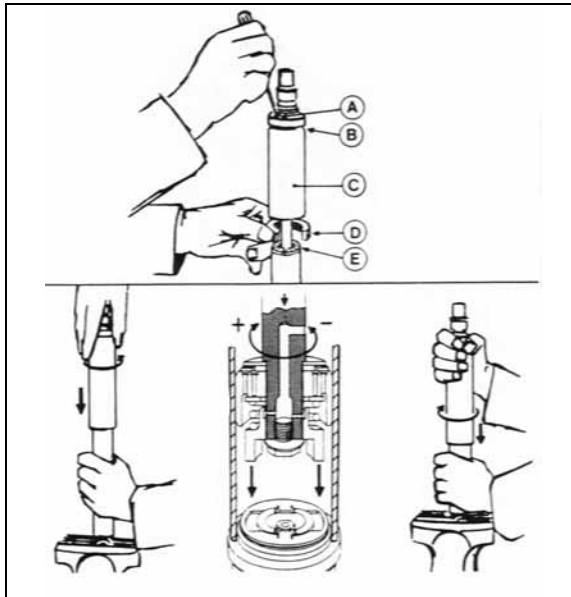

FIGURE 21: DAMPER
To adjust opening and closing cycle speed on damper (Fig. 21):
2. Fully close the damper while turning the dust cap or piston rod slowly CCW until it is felt that the cams of the adjusting nut engage in the recesses of the foot valve assembly (Fig. 21).
In figure 21, if there is an indentation (B) in the dust cap (C) and the cover shows two holes (A), the damper is fitted with a bump rubber (D). If so, fully extend the damper and insert a round bar or screwdriver through the holes. Push the bump rubber down and remove. Remove the split plastic collar (E) (if fitted) from the piston rod.
Where a bump rubber was installed, refit same inside the dust cap and by fully closing the damper, the rubber will seat again at top of the dust cap. Refit the split plastic collar E (Fig. 21).